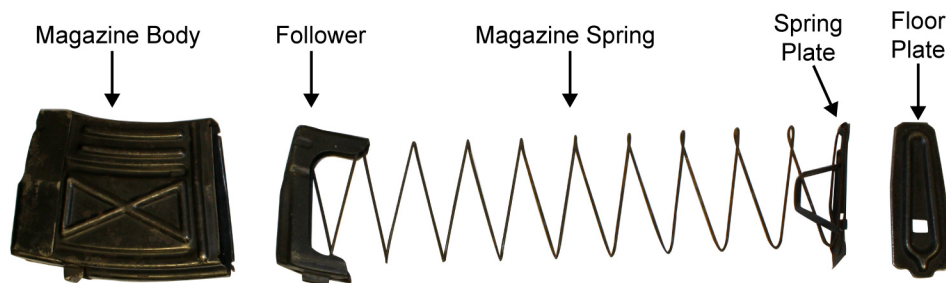

Figure 2. Magazine Components Disassembled.
4. Remove the spring plate, magazine spring, and follower. Refer to Figure 2.